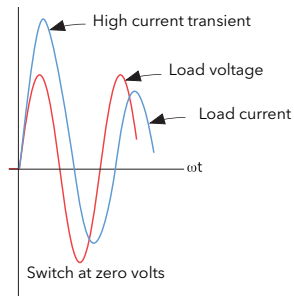

Figure 93 Delayed trigger definition
- Delayed Trigger** Appears only if Mode = Burst, Soft Start = Off, and Load Type = TxFormer. Delayed Trigger specifies the triggering delay, in phase angle, when delivering power into a transformer load. Used to minimise inrush current. the value is configurable between 0 and 90 degrees inclusive (Figures 93).